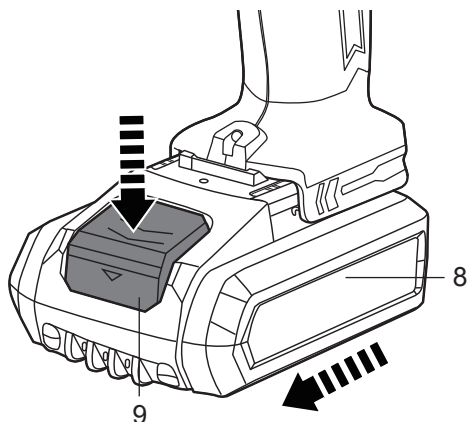

Fig. 4
- > Lock the ON/OFF switch (6) to avoid accidental starting by moving the forward / reverse rotation control (5) into the middle position (see section “Product functions – Forward / reverse rotation control”).
- > To remove the battery, press the release button (9) and pull out the battery pack (8) from the product (Fig. 4).